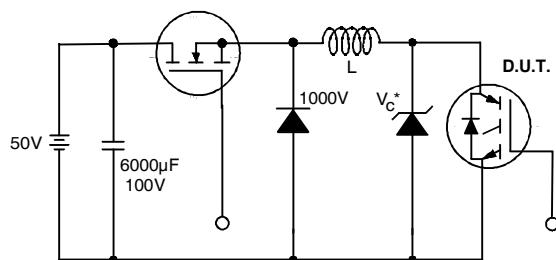

Figure 19. Clamped Inductive Load Test Circuit
- ② $V_{CC}=80\% (V_{CES})$, $V_{GE}=20V$, $L=10\mu H$, $R_G = 100\Omega$ (figure 19)
- ③ Pulse width $\leq 80\mu s$; duty factor $\leq 0.1\%$.
- ④ Pulse width $5.0\mu s$, single shot.